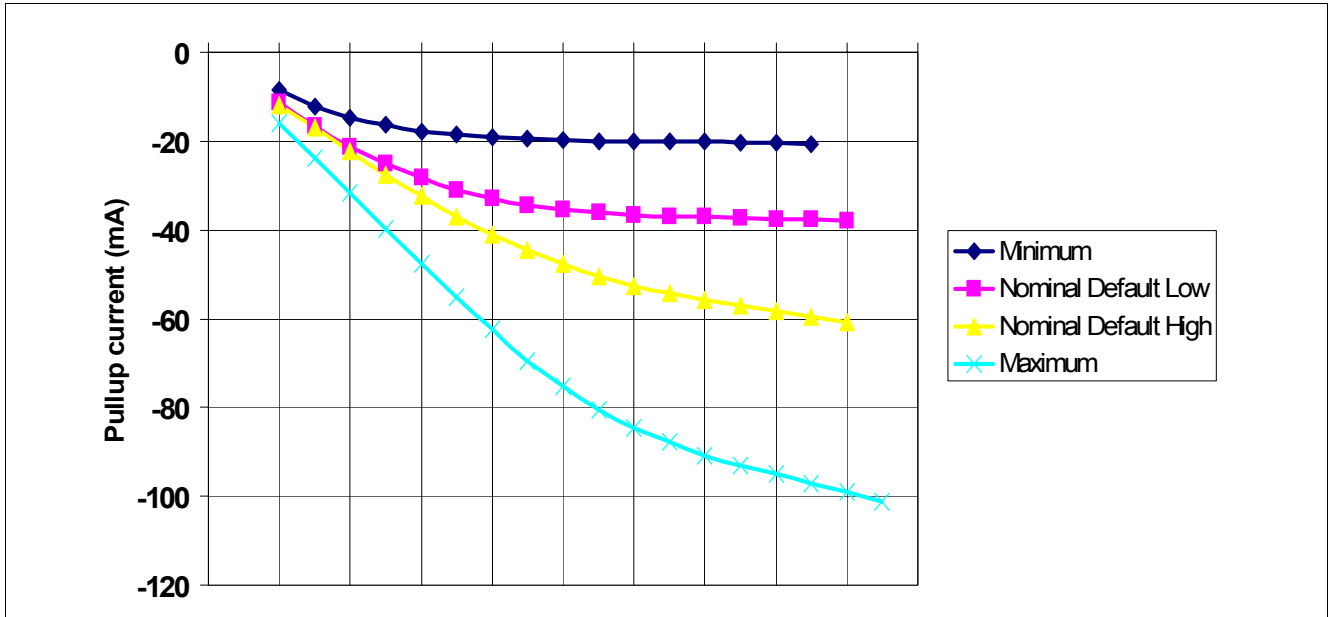
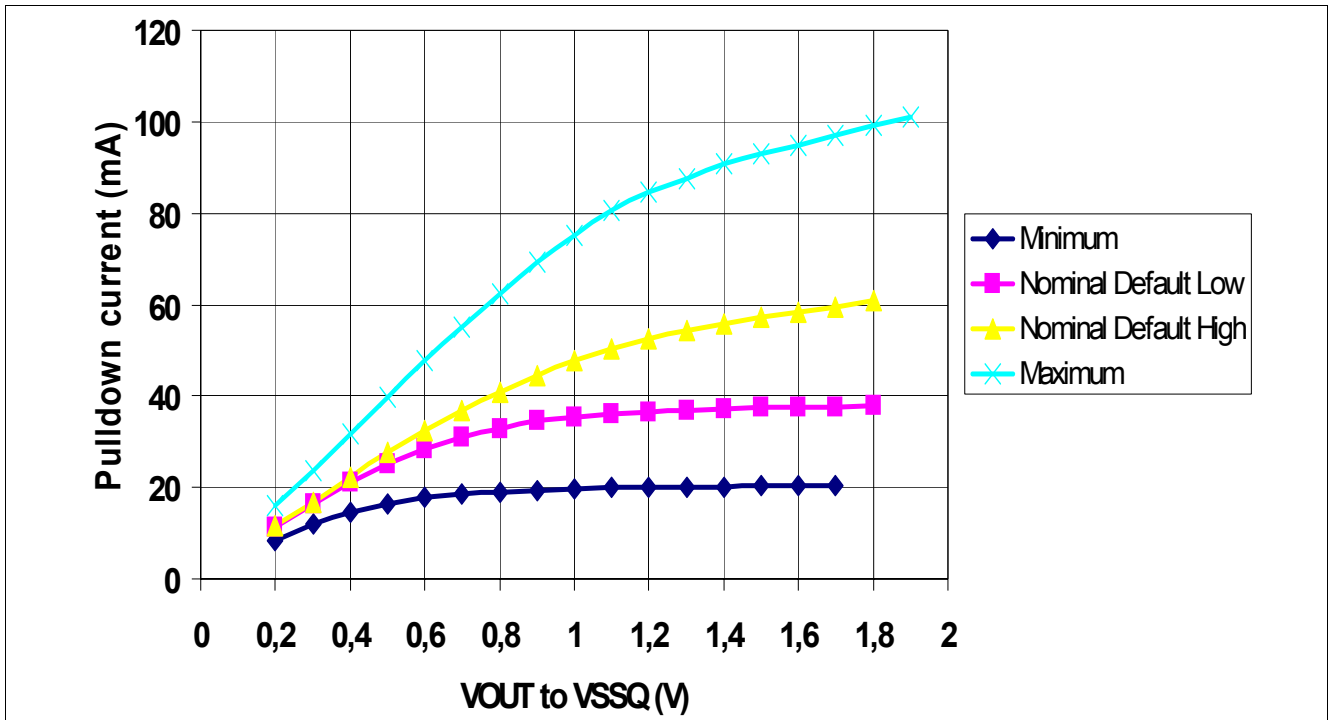

Figure 59 Full Strength Default Pull-up Driver Diagram
Figure 60 Full Strength Default Pull-down Driver Diagram
DDR2 SDRAM output driver characteristics are defined for full strength default operation as selected by the EMRS(1) bits A[9:7] = '111'. Figure 59 and Figure 60